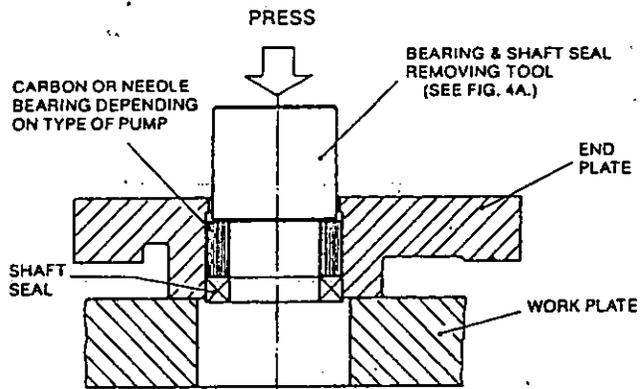

FIG. 4.
**NOTE:** New model pumps have a support ring (Pos 42) held by two (2) machine screws (Pos 43), holding the shaft seals in place. Before the shaft seals and bearings may be pushed out (See Figure 4 and 4A) the support ring must be removed.